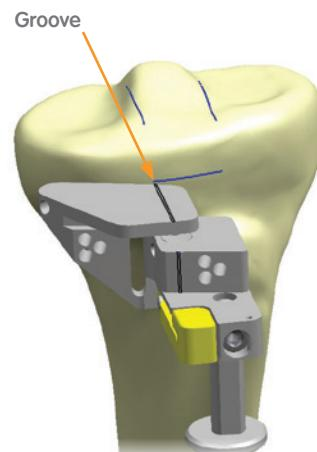

Figure 26
- 2 Mate the Datum Block to the anterior tibia by making the groove roughly in line with the medial marking from the tibia sizing template (Figure 26).